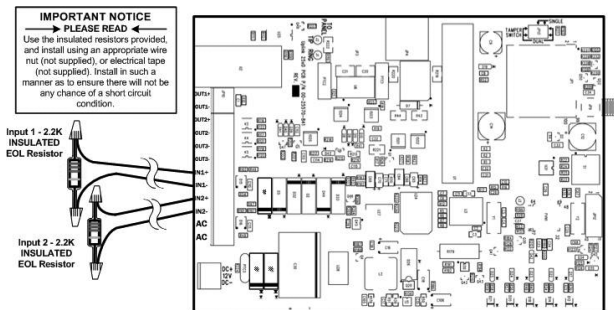

FIGURE 5:
27. The 4550-CB has two EOLR supervised inputs that report to the central station when activated. These inputs are disabled in the default state and must be enabled via the Dealer Web Site. Two insulated EOL resistors are enclosed and only those insulated EOL resistors have been tested by UL. Additionally, the resistor(s) must be fastened securely to the appropriate input, with no means to open circuit, short to an adjacent circuit or cause a risk of electric shock. See Figure 5 for further details.